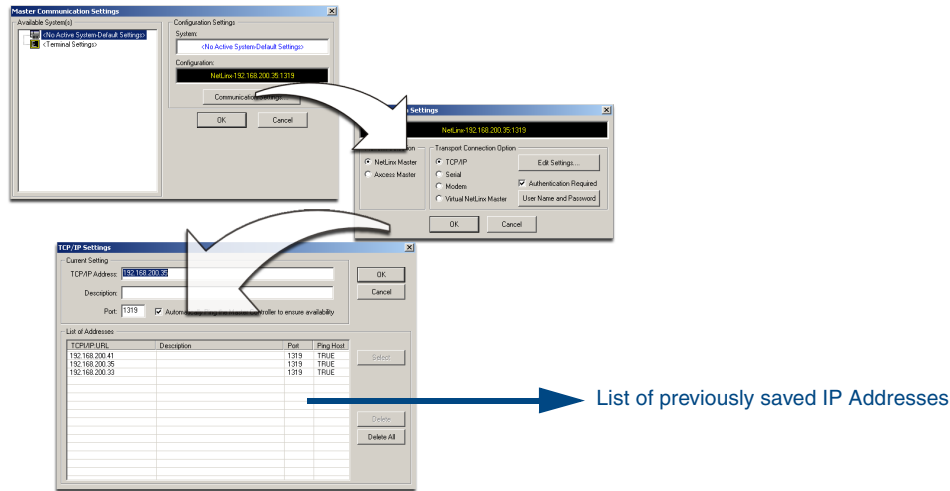

FIG. 16 Assigning Communication Settings and TCP/IP Settings
3. Select **Settings > Master Communication Settings**, from the Main menu to open the Master Communication Settings dialog (FIG. 16).
8. Click the **Edit Settings** button (on the *Communications Settings* dialog) to open the TCP/IP Settings dialog (FIG. 16).